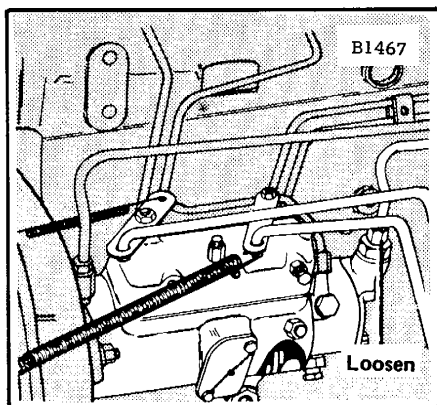

Fig. 43 Fuel Injection Pump Inlet
6. Loosen pipe nut at fuel injection pump inlet (Figure 43).